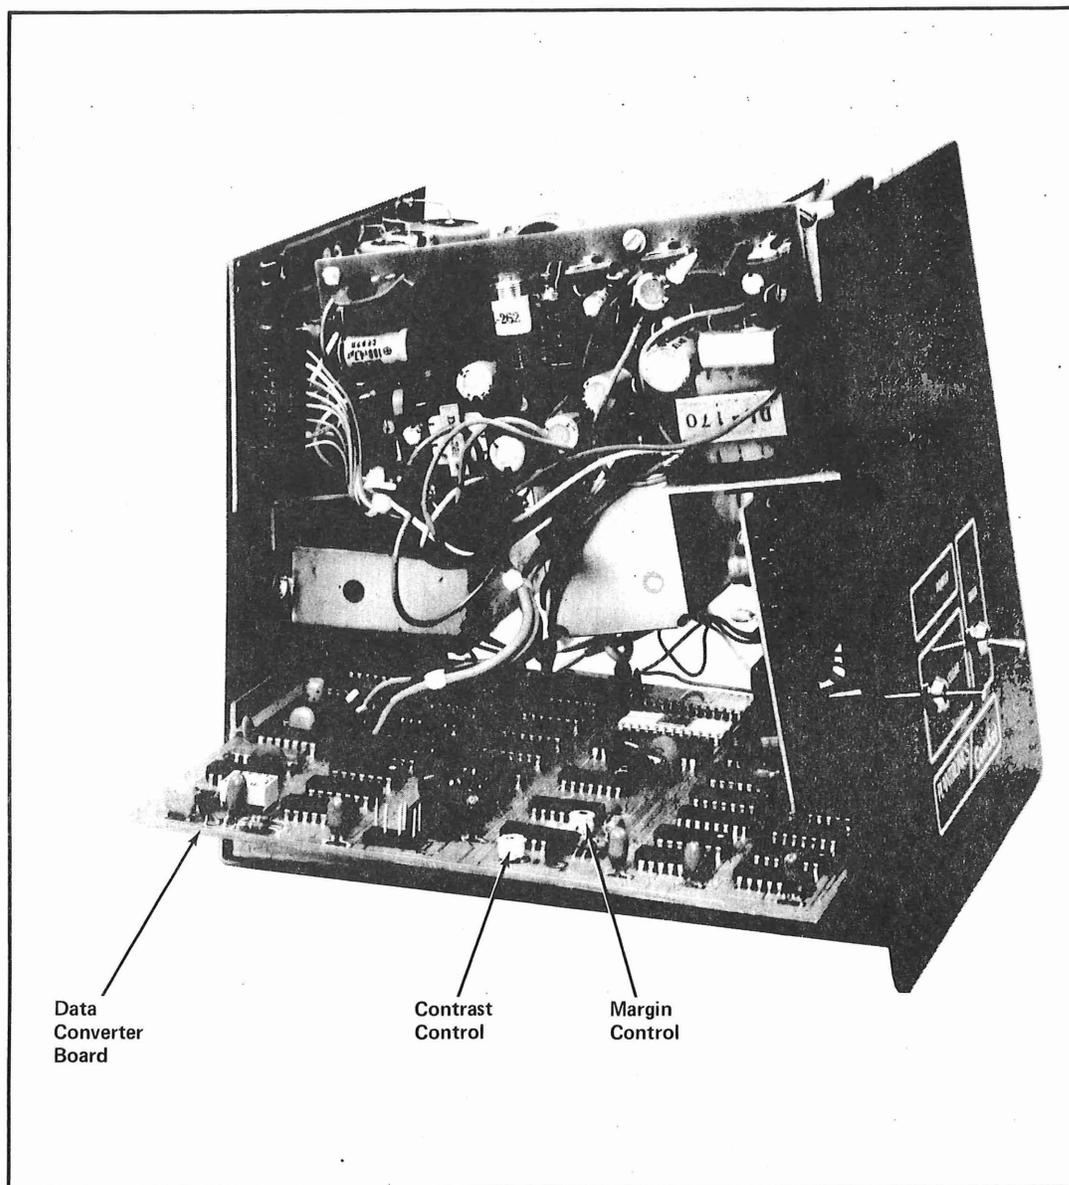

Figure 4-7. Removal of Data Converter Board
- (e) The data converter board can be removed by sliding it out of the card guide from the left side of the terminal. (See figure 4-7.)
- (a) Slide the data converter board into the card guides from the left side of the terminal. (See figure 4-7.)
4.28 Adjust the margin control (see figure 4-7) while observing display screen:
(a) If data is correct and can be centered using the margin control (figure 4-7) or if the symptoms are now different, the original data converter board has malfunctioned. Retest terminal.
(a) If data is correct and can be centered using the margin control (figure 4-7) or if the symptoms are now different, the original display assembly module